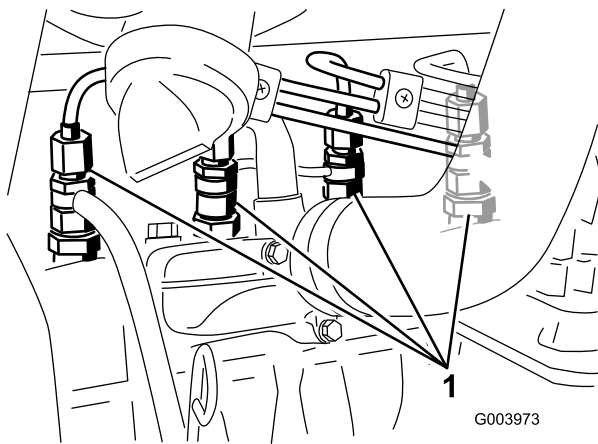

Figure 44
1. Loosen the pipe connection to the No. 1 nozzle and holder assembly (Figure 44).